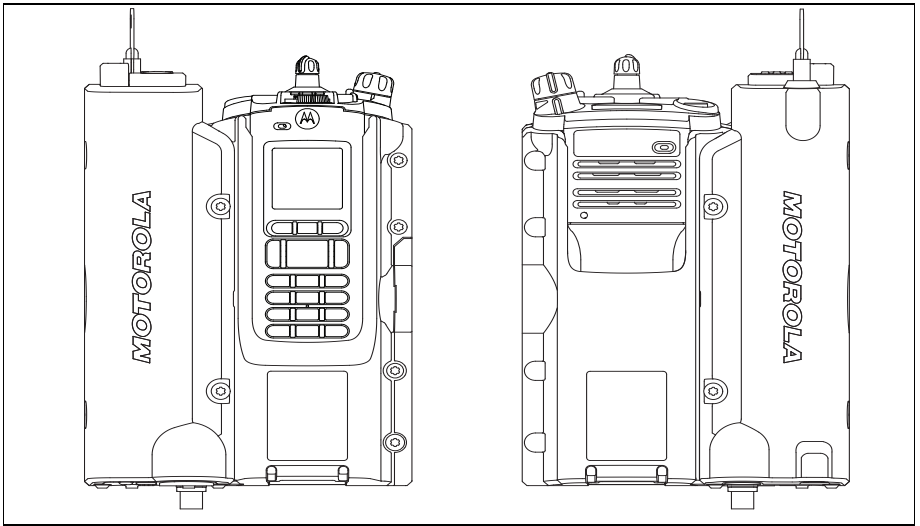
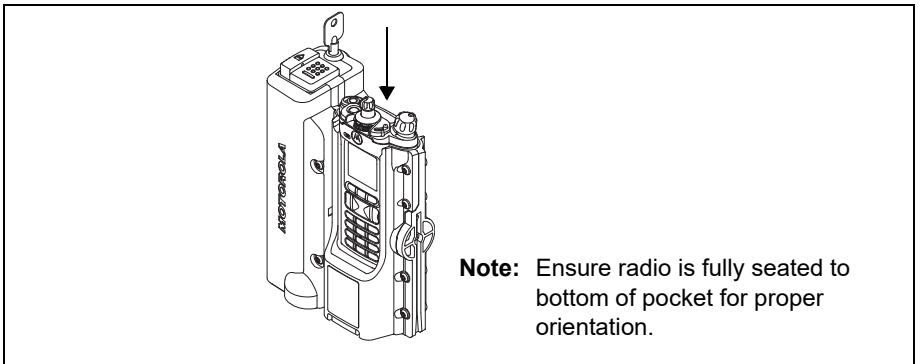

Figure 8: Radio with Keypad Orientation and Speaker Orientation (respectively)
Figure 9: Radio Installation into APX VA Unit
2. Referring to Figure 8 and Figure 9, orient the radio with battery attached-speaker or keypad facing upward or outward. Then, slide the radio into the APX VA radio pocket as far as it can go until the radio is fully inserted in the pocket.